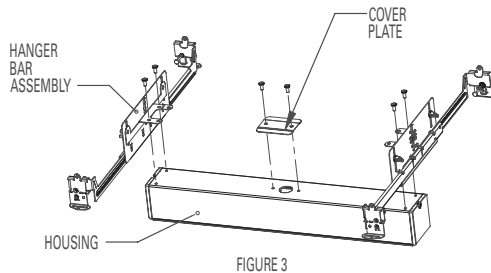

FIGURE 3
5. Install the housing using the hanger bars. The hanger bars can be extended up to 25.5", and are designed to be nailed or screwed to studs, clipped onto the T-grid of a suspended ceiling, or be suspended from wires. If the hanger bars need to be configured perpendicular to the fixture, the hanger bar brackets can be attached at the ends of the fixture using the screws provided (See Figure 3).